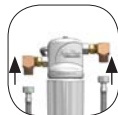

fig. 10
4. Attach braided hoses (5) to the 1/2" brass elbow (ref fig 10).